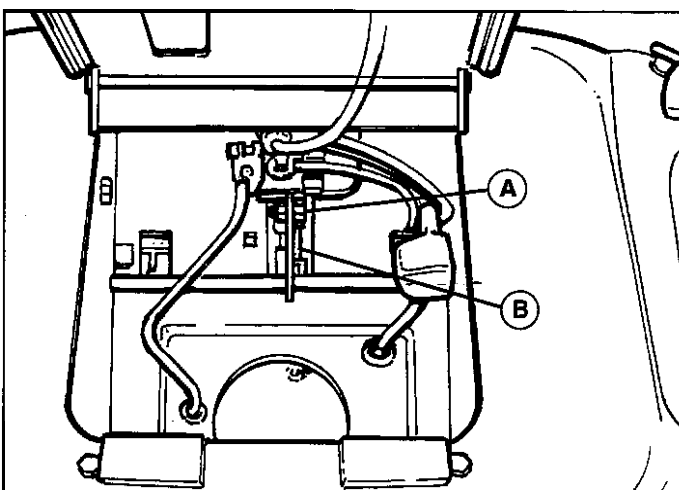

Figure 22. Neutral Adjustment - Gear Model
2. See figure 22. Raise the seat and loosen the hardware (A) securing the gear selector shaft (B).